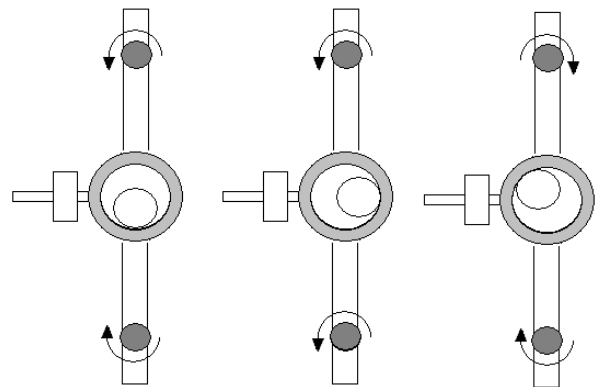

Fig. 3 Levelling the rotating system
- The two adjustment screws (g and m) allow inclination with respect to the horizontal to be adjusted in two planes (see Fig. 3).